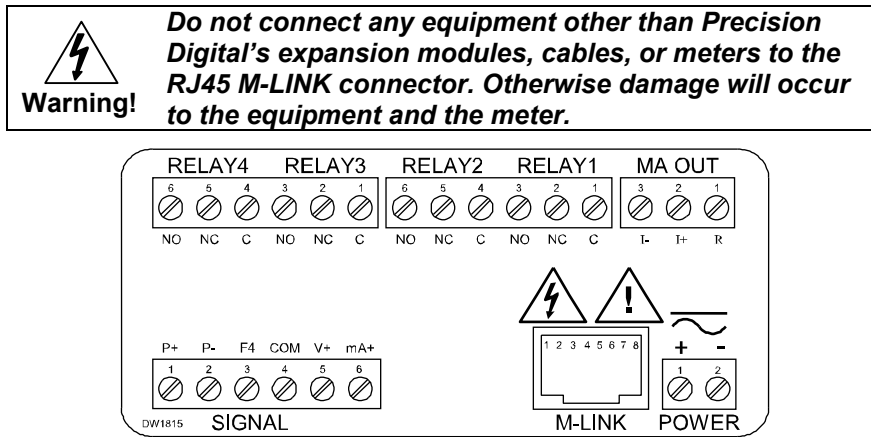

Figure 3: Connector Labeling for Fully Loaded PD8-6200
Power connections are made to a two-terminal connector labeled POWER on Figure 3. The meter will operate regardless of DC polarity connection. The + and - symbols are only a suggested wiring convention.
Signal connections are made to a six-terminal connector labeled SIGNAL on Figure 3. The COM (common) terminal is the return for the 4-20 mA and the ± 10 V input signals.
Relay connections are made to two six-terminal connectors labeled RELAY1 – RELAY4 on Figure 3. Each relay's C terminal is common only to the normally open (NO) and normally closed (NC) contacts of the corresponding relay. The relays' C terminals should not be confused with the COM (common) terminal of the INPUT SIGNAL connector.